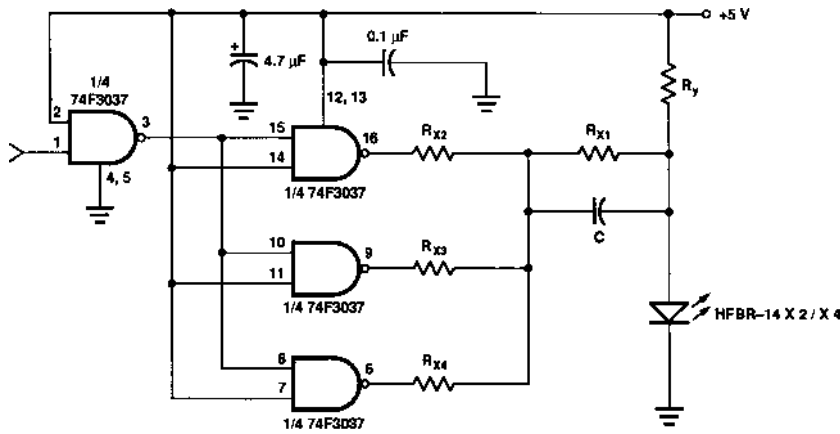

Figure 11. Recommended Drive Circuit.
- Pre-bias is recommended if signal rate > 10 MBd, see recommended drive circuit in Figure 11.
Figure 11 uses frequency compensation to reduce the typical rise/fall times of the LED and a small pre-bias voltage to minimize propagation delay differences that cause pulse-width distortion. The circuit will typically produce rise/fall times of 3 ns, and a total jitter including pulse-width distortion of less than 1 ns. This circuit is recommended for applications requiring low edge jitter